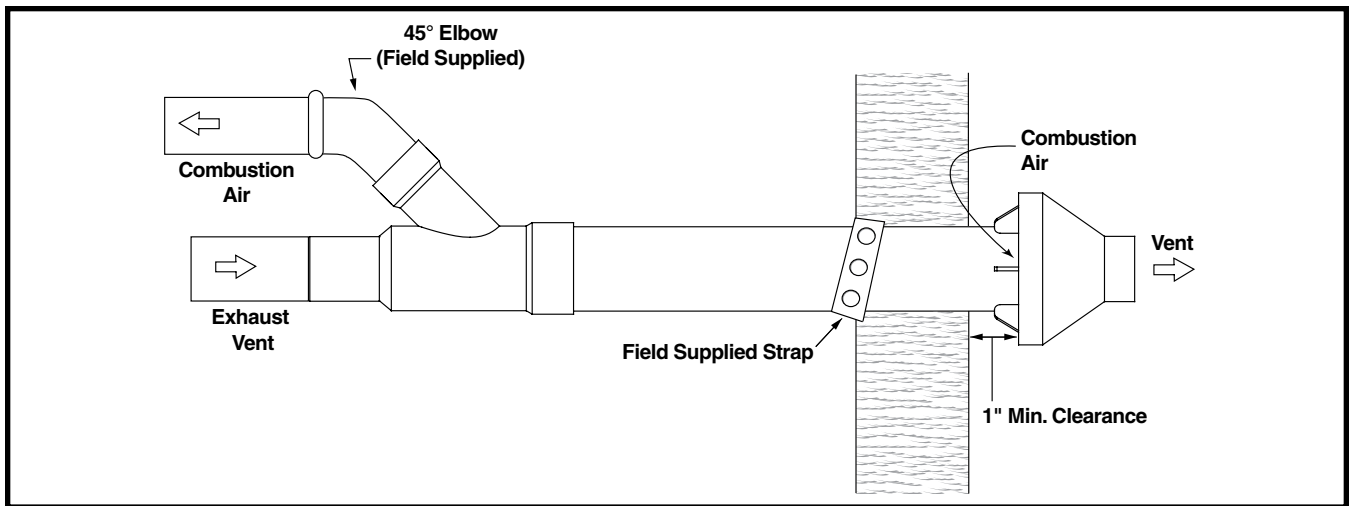

Figure 5. Side Wall Installation
- through structure's hole (Figure 5). **NOTE:** Do not allow insulation or other materials to accumulate inside pipe assembly when installing through hole.
5. Secure the assembly to the structure as shown in Figure 5 using field supplied metal strapping or equivalent support material.
NOTE1: Ensure termination location clearance as shown in Figure 5.